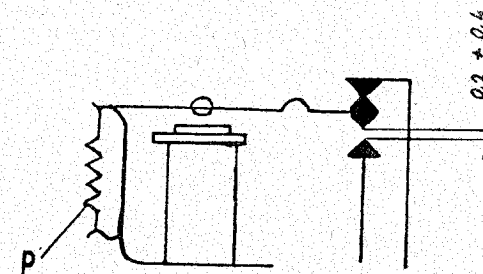

Fig. 79.
2. Release the armature which is lifted by the pull of spring P, and its contact touches the upper contact. By bending the top contact holder adjust the gap between the center contact (armature contact) and the bottom contact to 0.2 to 0.4 mm (Fig. 79).